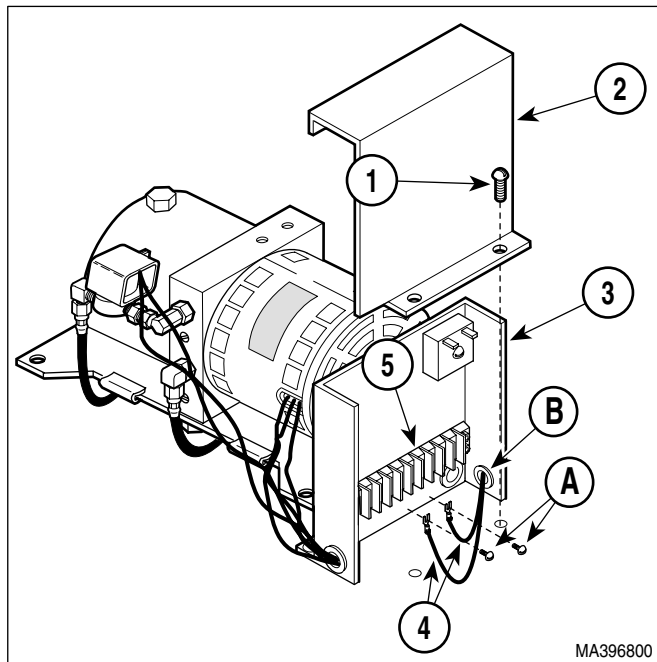
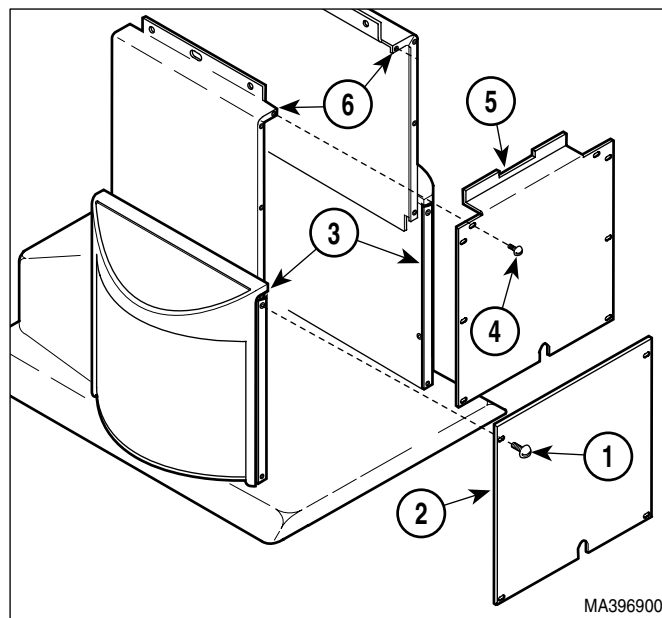
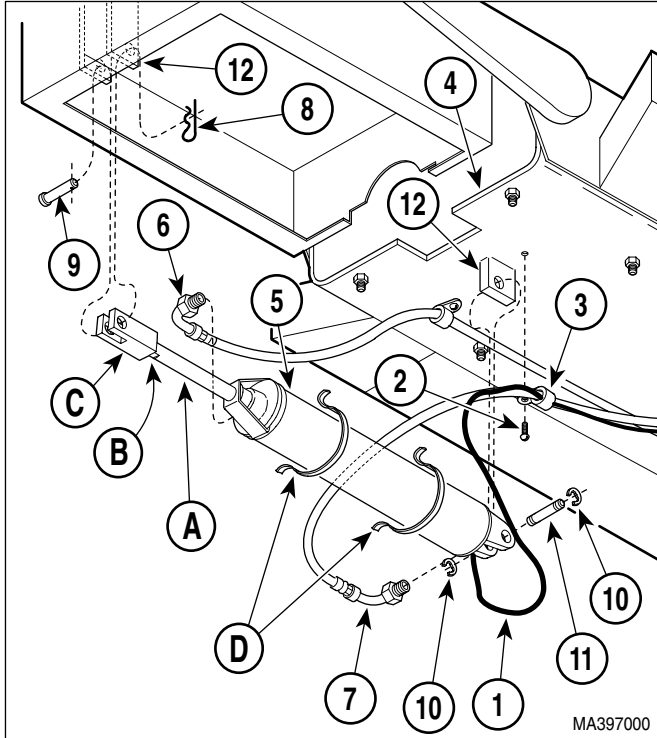

Figure 4-20. Foot Cylinder Wire Disconnection / Connection
Figure 4-21. Shrouds Removal / Installation
Figure 4-22. Foot Cylinder Removal / Installation
- (1) If possible, raise FOOT UP function all the way up.
- (2) Unplug table power cord from outlet.
- (3) Remove motor cover assembly (Refer to para 4.2).
- (4) Remove two screws (1, Figure 4-20) and control cover (2) from control panel (3).
- (5) Loosen two terminal screws (A); then tag and disconnect two foot cylinder wires (4) from terminal block (5).
- (6) Pull foot cylinder wires (4) out thru wire hole (B).
- (7) Remove four screws (1, Figure 4-21) and front outer shroud (2) from left and right hand outer shrouds (3).
- (8) Remove eight screws (4) and front inner shroud (5) from left and right hand inner shrouds (6).
- (9) Cut cable ties (D) securing foot cylinder wire harness (1, Figure 4-22).
- (10) Remove screw (2) and wire clip (3) securing foot cylinder wire harness (1) to seat weldment (4).
- (11) Cut cable ties securing hose assemblies to foot cylinder (5).
- (12) Disconnect hose assembly (6) from foot cylinder (5).
- (13) Disconnect hose assembly (7) from foot cylinder (5).
- (14) Support foot section of table top and then remove hitch pin clip (8), clevis pin (9), two E-rings (10), clevis pin (11), and foot cylinder (5) from brackets (12).
- (1) Install foot cylinder (5, Figure 4-22) on brackets (12) and secure with clevis pin (11), two E-rings (10), clevis pin (9), and hitch pin clip (8).
- (2) Connect hose assembly (7) to foot cylinder (5).
- (3) Connect hose assembly (6) to foot cylinder (5).
- (4) Secure hose assemblies (6 and 7) to foot cylinder (5) with cable ties.
- (5) Secure foot cylinder wire harness (1) to seat weldment (4) with wire clip (3) and screw (2).
- (6) Feed foot cylinder wires (4, Figure 4-20) thru wire hole (B) in control panel (3).
- (7) Connect two foot cylinder wires (4) to terminal block (5) and secure with two terminal screws (A).
- (8) Install control cover (2) on control panel (3) and secure with two screws (1).
- (9) Plug table power cord into outlet.
- (10) Raise FOOT UP function all the way up.
- (11) If foot section *is not* level with seat section when FOOT UP function is completely raised, perform steps 12 thru 14. See Figure 4-22. If foot section *is* level when the FOOT UP function is completely raised, go to step 15.
- (12) Lower FOOT DOWN function down until cylinder rod is extended halfway.
- (13) Place a wrench on adjusting seats (B) of cylinder rod and use it to rotate cylinder rod to adjust clevis (C) up or down as necessary.
- (14) Repeat steps 10 thru 14 until foot section is level with seat section when FOOT UP function is completely raised.
- (15) Install any cable ties (D) removed during removal.
- (16) Install front inner shroud (5, Figure 4-22) on left and right hand inner shrouds (6) and secure with eight screws (4).